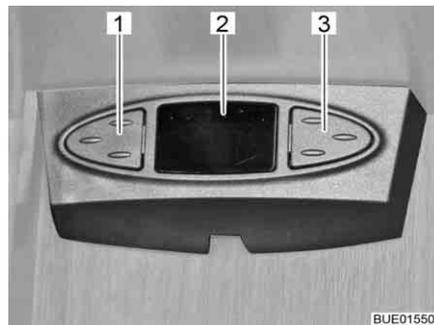

Fig. 35 Satellite mouse
- Choosing the previous channel from the list: Press left button (Fig. 35,1).
- Choosing the next channel from the list: Press right button (Fig. 35,3).
- Switching between radio and TV: Press the buttons (Fig. 35,1 and Fig. 35,3) briefly at the same time.
- Switching the receiver on/off: Press and hold the buttons (Fig. 35,1 and Fig. 35,3) at the same time.